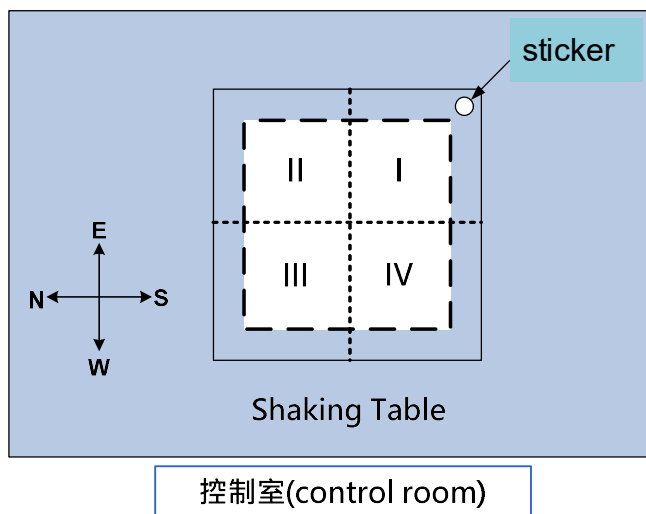

Figure 3. The orientation of the model fixed on the shaking table.
- 7.7 The side of the base board marked with a sticker is where the model should be built on. In addition, when mounting the model onto the shaking table, the sticker should be on the southeast corner (shown as Fig. 3). If there is any question about the relative positions or directions shown in Fig. 3, please ask the staffs/judges for assistance.